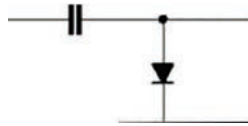

Figure 3.46 Ch 3 - No. 22, self-test
22. A negative clamper shown in Figure 3.46 has a peak input voltage of 10 V. What is the RMS output voltage for the clamper? (Assuming a silicon diode)